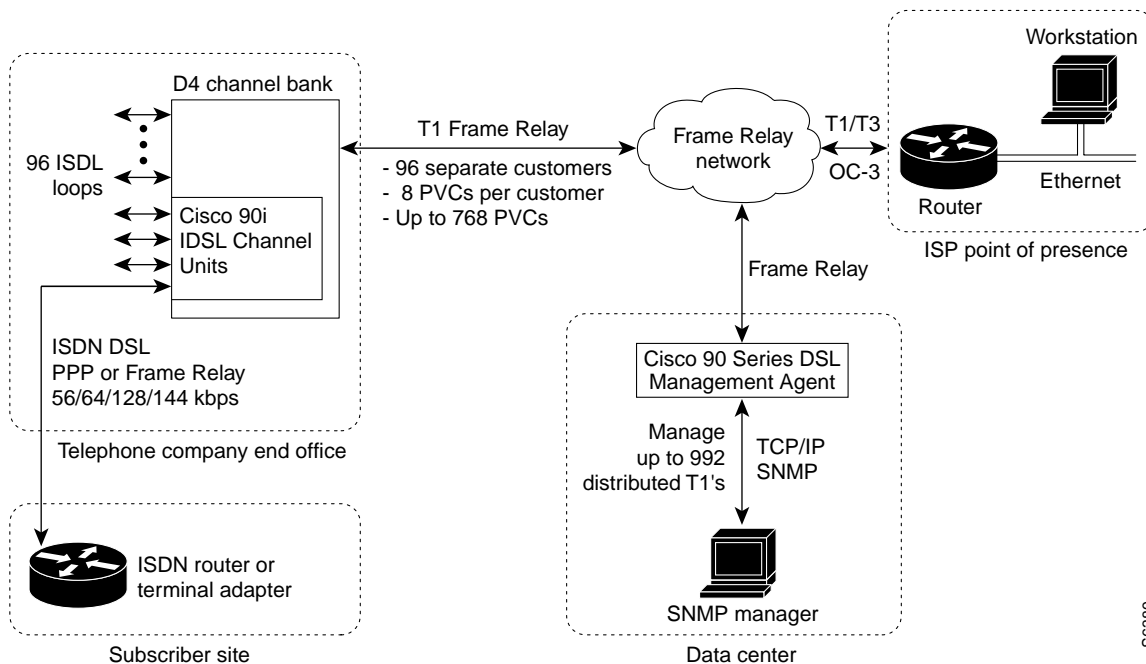

Figure 2 Typical Cisco 90i IDSL Channel Unit Application
2.01 A typical Cisco 90i Channel Unit application is shown in Figure 2. The unchannelized T1 Frame Relay uplink is transported interoffice to the nearest Frame Relay switch using existing copper or fiber facilities. User data is delivered to an Internet service provider (ISP) point of presence (POP) or to a corporate network using a Frame Relay link or ATM link through service internetworking.